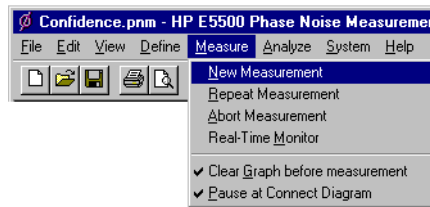

Figure 5-18 Selecting New Measurement
- 1 From the **Measurement** menu, choose **New Measurement**. See Figure 5-18.